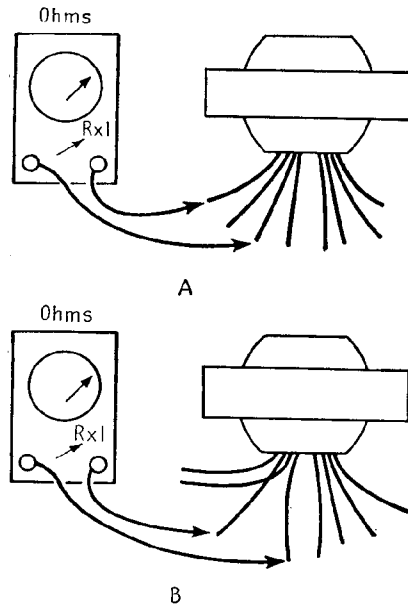

FIG. 8-7.—Pairing the leads.
- b.* Separate these two or three leads, as the case may be, and repeat to find the other windings, as shown in Fig. 8-7*B*.